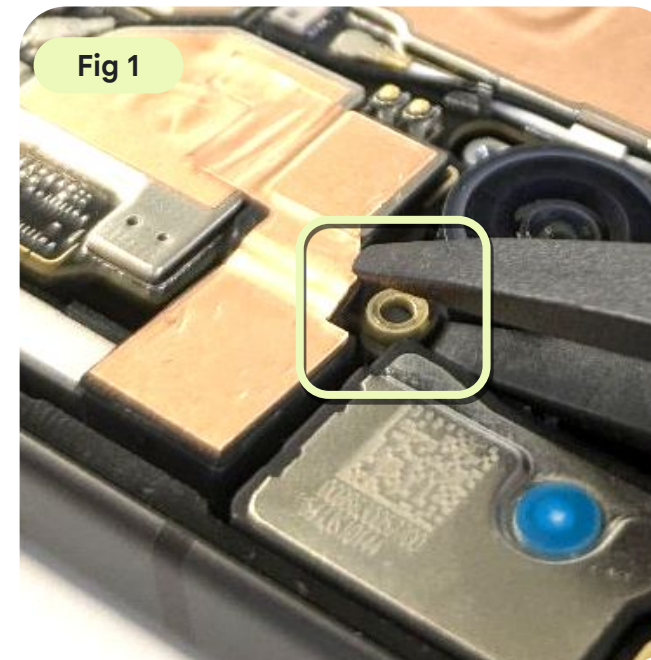

Fig 1
- Flip up the logic board from the screw hole above the camera with ESD tweezer as shown in Fig 1.